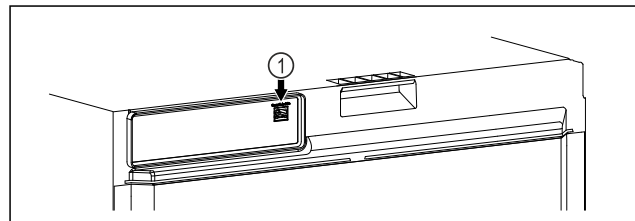

Fig. 101
- SmartModule Fig. 101 (1) has been inserted.